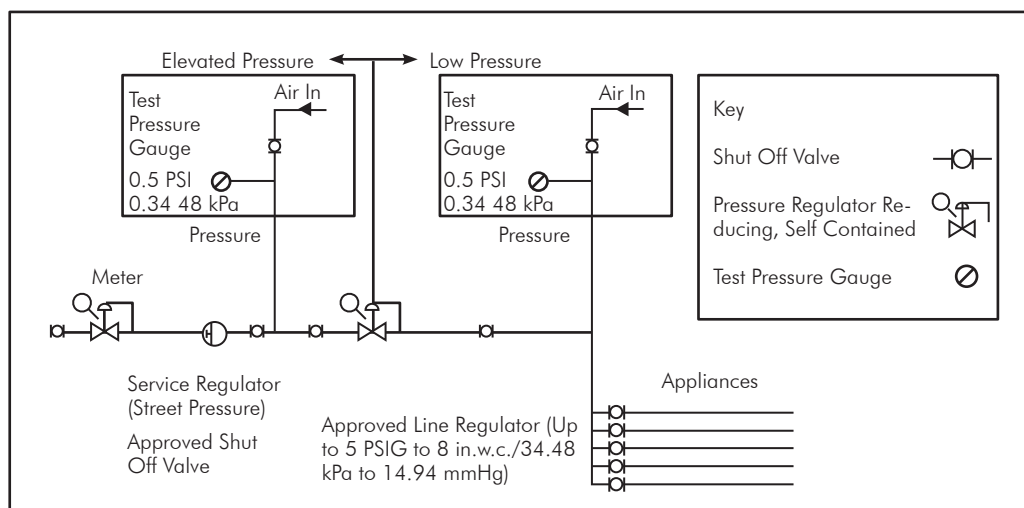

FIG. 6-1 Pressure Test Requirement for Elevated Pressure Systems
- A2 PSI (13.79 kPa) system usually requires a pressure test of 3 PSI (20.69 kPa), depending on local code. The test may be performed as a one part test by replacing the regulator with suitable “jumper” pipe length for pressure testing the entire system. Or a two-part test may be performed as shown in **FIG. 6-1**.